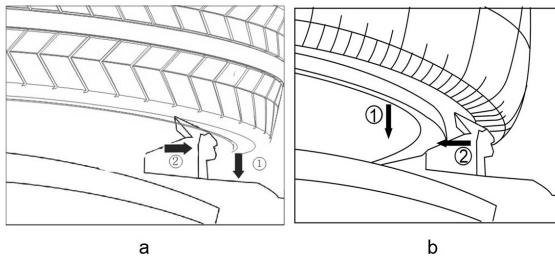

Fig.15
- In case of inside clamping, (fig.15-a) , depress pedal D, shrink the jaws together, place the wheel on the turntable and depress pedal C to clamp.
- In case of outside clamping, (fig.15-b) , enlarge the jaws outward(2-3cm away from edge of the rim), and place the wheel on the turntable, press the rim close to the jaws, depress pedal D to clamp it..